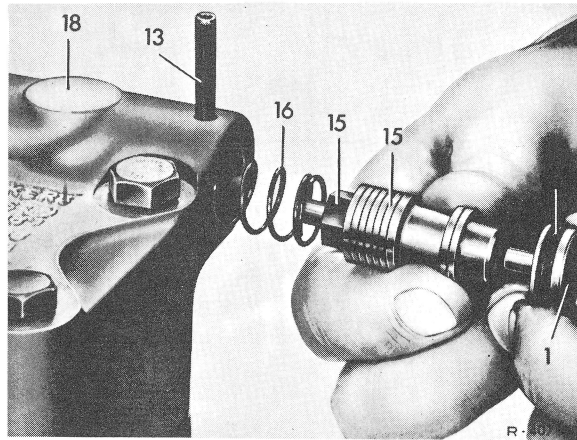

Fig. 6
9 Knock locking pin (13) carefully from pump housing (18) (Fig. 6), since this will generally result in pushing the closing plug and the volume control valve of the compression spring out of the housing.
10 Remove closing plug (1), volume control valve (15) and compression spring (16) from pump housing (Fig. 6).